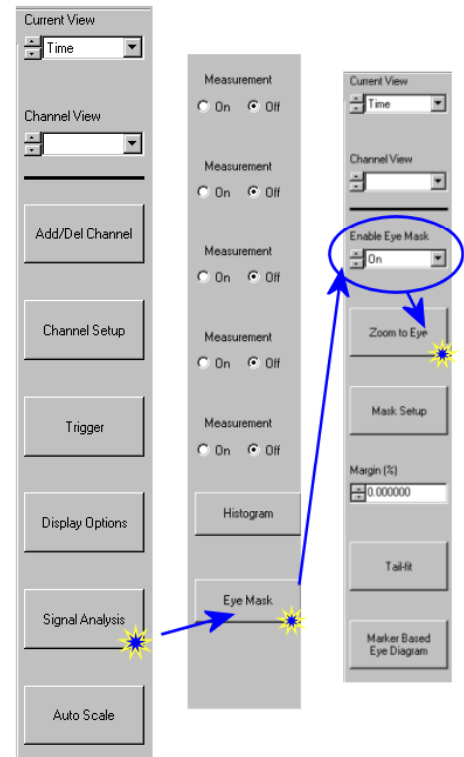

Figure 7 – Enabling eye mask
- Press **Signal Analysis** (Figure 7).
- Open the Marker Based Eye Diagram from the shown in Figure 7, or from SIA-4000 main menu, "Other Tools" menu.